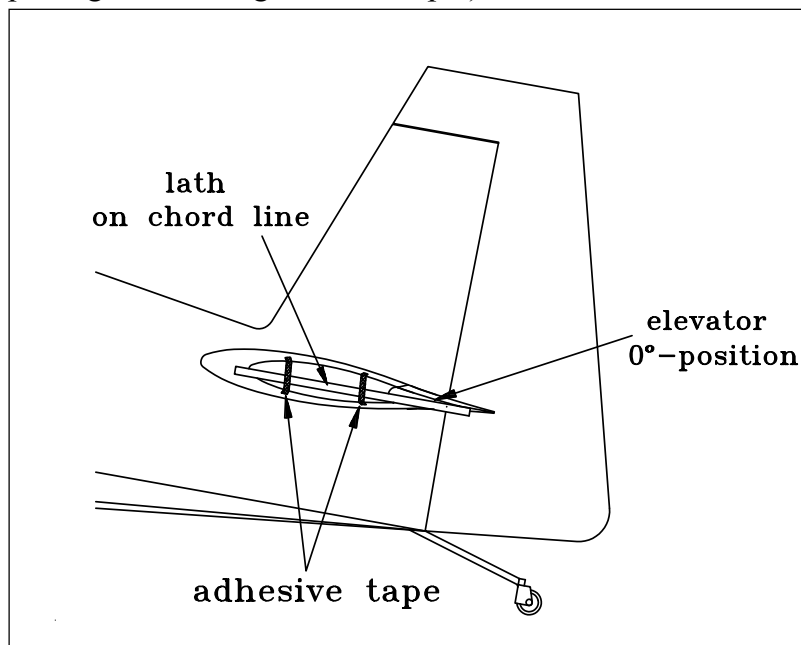

Figure 19 Lath on Chord Line
- 3 Check if the elevator is in 0°-position. (Trailing edge on chord line. Fasten a lath to the tip rib of the horizontal tail per Figure 19 using adhesive tape.)